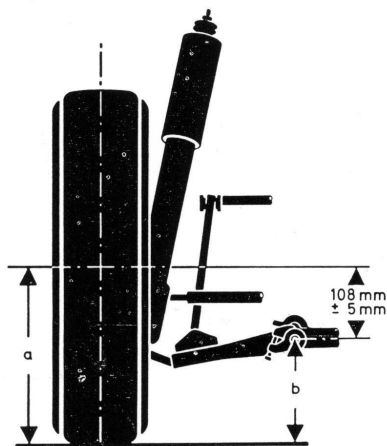

Fig. 5
3. Measure the vertical distance between the front wheel center and a level part of the ramp or level floor (see dimension "a" in Fig. 5).